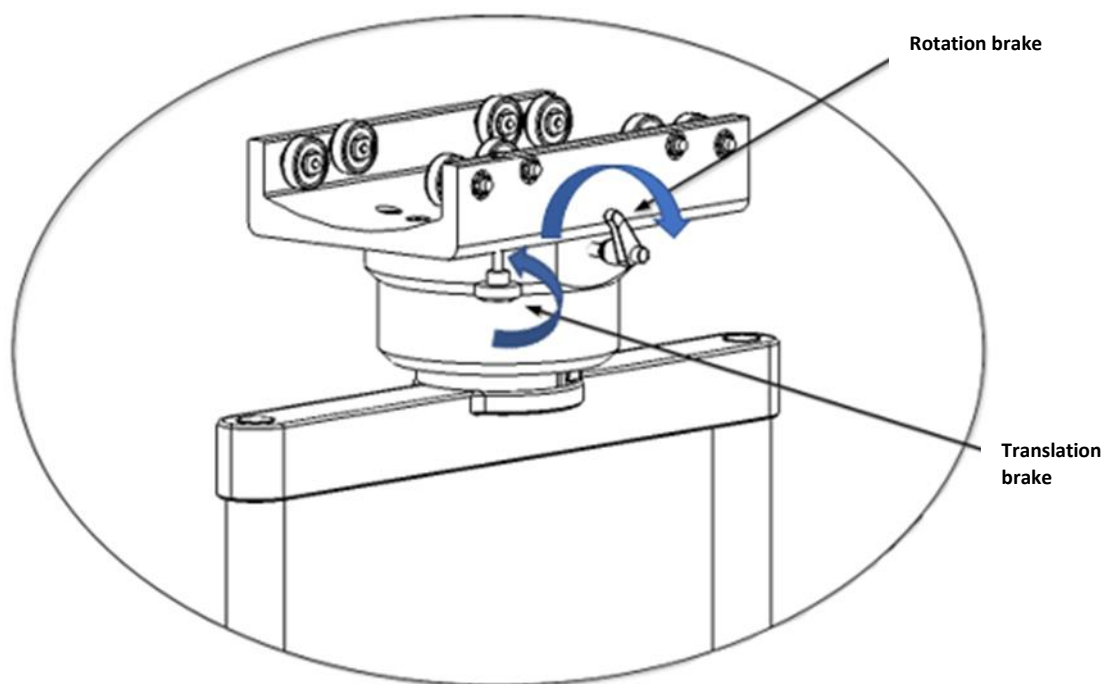

Fig.45 Adjustment of friction brakes on element carrier trolleys
- To increase the braking force on the rotation axis, turn the rotation brake lever clockwise as shown in figure 45.
- To reduce the braking force on the rotating shaft, turn the rotation brake lever anticlockwise in the opposite direction to that shown in figure 45.
- To increase the braking force on the drive shaft, turn the rotation brake lever clockwise as shown in figure 45.
- To reduce the braking force on the drive shaft, turn the rotation brake lever counterclockwise, in the opposite direction to that shown in figure 45.